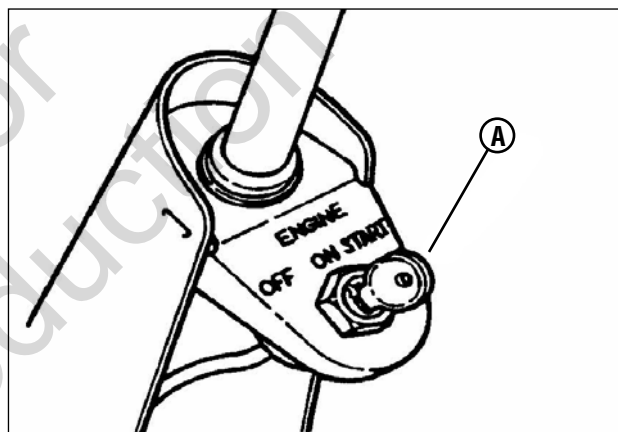

Figure 9: Key
5. Turn the key (**A**, **Figure 9**) to the “ON” position.